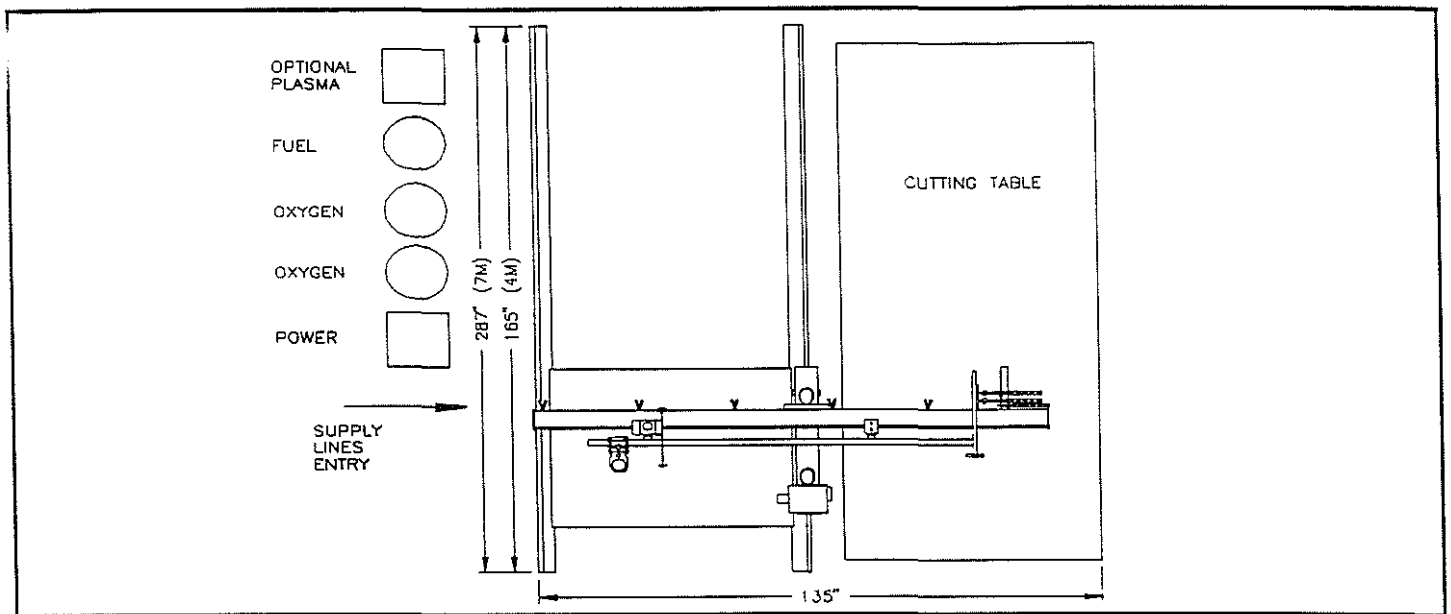

Figure 3.1 IK-1200J Typical Floor Plan
Solid, secure and accurate rail installation is critical to insure maximum accuracy for any oxy-fuel/plasma cutting machine. The floor for machine installation should be of at least four-inch-thick reinforced concrete. The overall level, either on the floor or on footings, should be within one-half-inch for the entire width and length of the rail installation. Figure 3.1 shows a typical floor plan. In addition to the recommendations listed, all local building codes and construction practices must be followed.
1. Position the 'U' shaped pedestals in the approximate locations as indicated in the typical *Floor Plan drawing Figure 3.1. CLEAN THE RAIL SURFACES.* Place the main (INBOARD) rail in position on the pedestal units. Use fasteners provided to temporarily snug the rail in place.